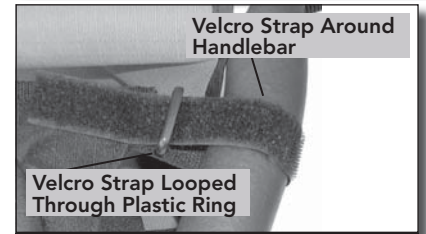

Fig 3 Velcro Strap Routing
- Continue wrapping the velcro strap around the handlebar and insert through the black plastic ring as shown in figure 3.